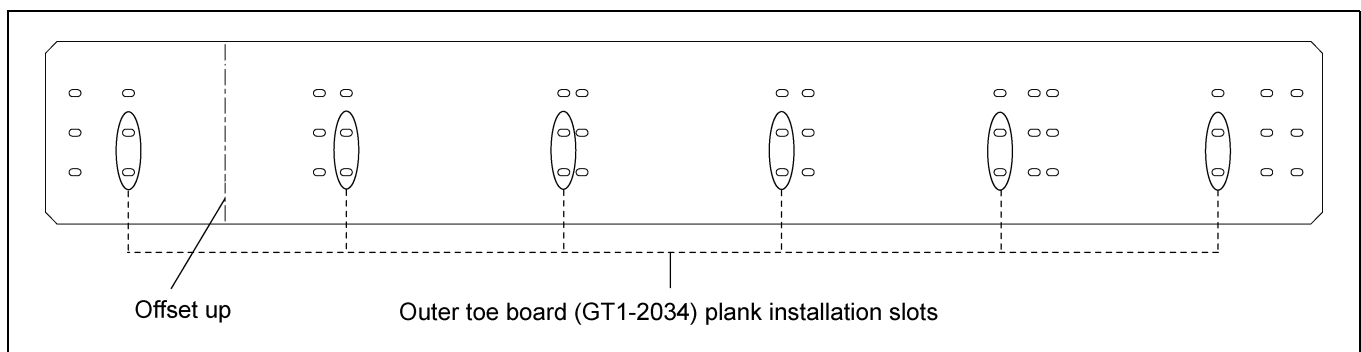

Figure 4S
3. Outer toe board (GT1-2034) is aligned and attached to the planks with the corresponding slots as shown in *Figure 4S*.